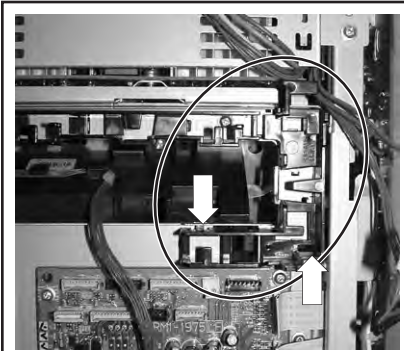

Figure 9. Removing the DC cable holder (circled) from the shield plate. Arrows indicate the plastic hooks to probe. Pull downward to remove holder.
- Work all wiring cables unplugged in Step 1 free from the DC cable holder (upper right) and upper cable holder along the top edge of the shield plate, as shown in Figure 9.
- Remove the DC cable holder, circled in Figure 9. Arrows in the figure show where to probe the retaining hooks for removal.